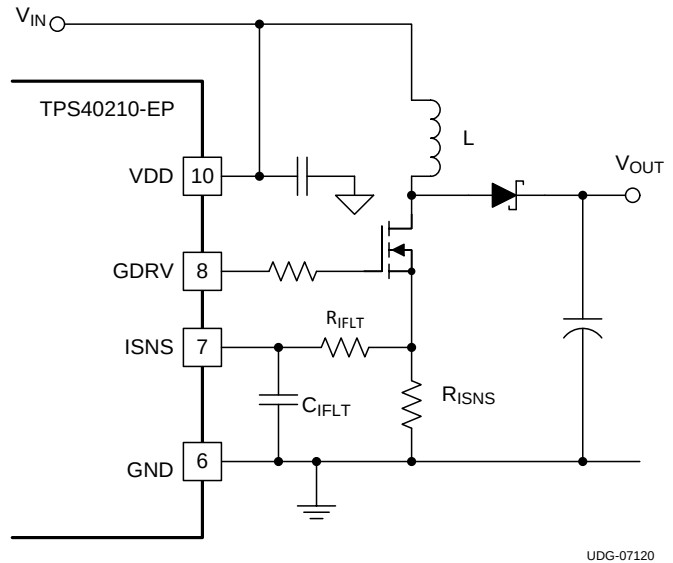

Figure 26. Current Sense Components
- V_{D} is the drop across the diode in Figure 26.
- V_D is the drop across the diode in Figure 26.
It is possible to increase the voltage compensation ramp slope by connecting the VDD pin to the output voltage of the converter instead of the input voltage as shown in Figure 26. This can help in situations where the converter design calls for a large ripple current value in relation to the desired output current limit setting.
In most cases, a small filter placed on the ISNS pin improves performance of the converter. These are the components R_{IFLT} and C_{IFLT} in Figure 26. The time constant of this filter should be approximately 10% of the nominal pulse width of the converter. The pulse width can be found using Equation 20.